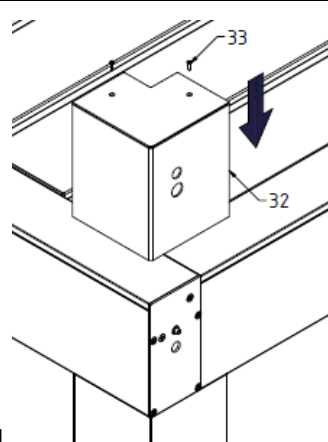

Fig. 31
36. Tighten the bezels (32) on the corners of the pergola with the 2 screws ISO 7050 - ST2.9x13 (33) included in the accessories - fig.31. In the corner with the control unit, install the pre-drilled bezel with additional holes on the power cable.